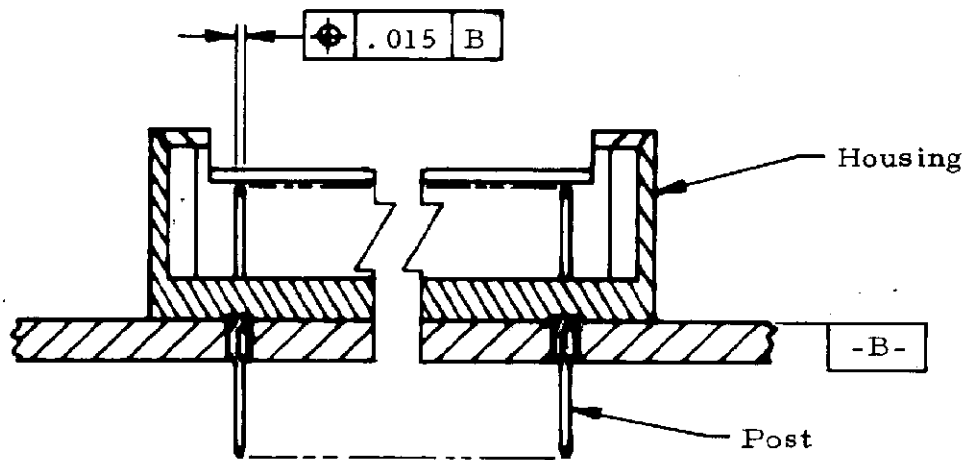

Figure 6
A. Post true position shall be as indicated in Figure 6 after insertion.